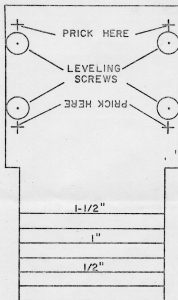

Figure 2. Control Location and Mounting Pattern
4. Place the template (Fig.2) on the underside of the shelf and mark the screw holes with a center punch or nail.